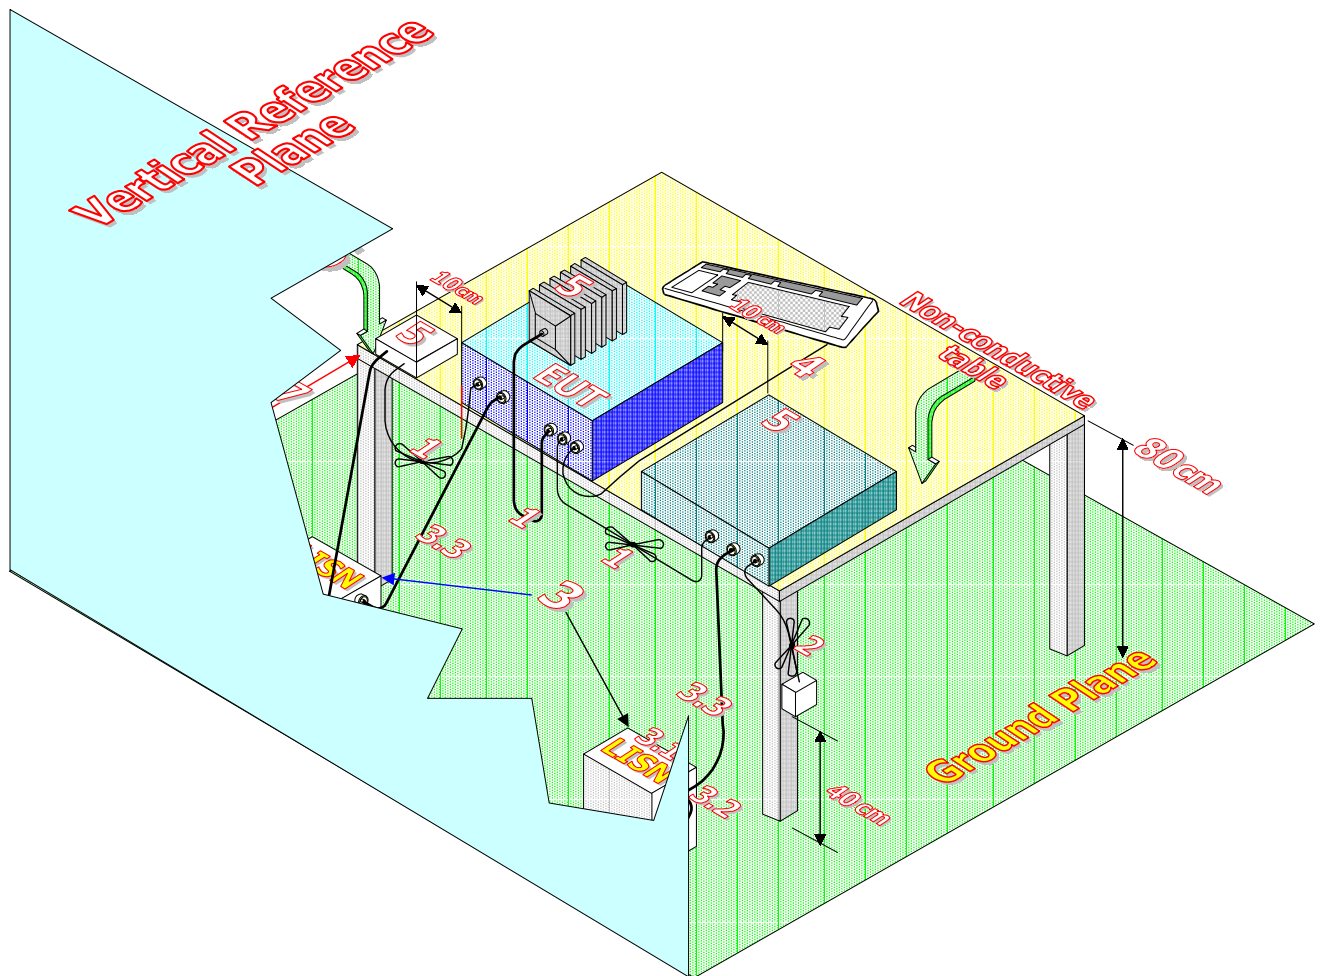

Figure CE-3
- (3) configurations for Equipment and cable are shown in Figure CE-3.